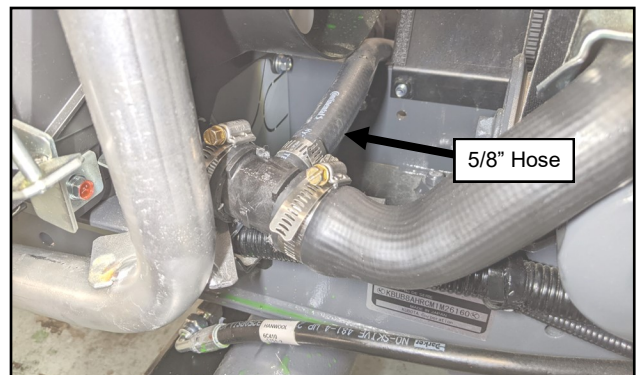

Fig. 15.9 (Attach 5/8" Hose)
- 15.9 Attach one end of the 5/8" hose to the tee with a small hose clamp and route the hose across the engine bay under the radiator. See Figure 15.9.